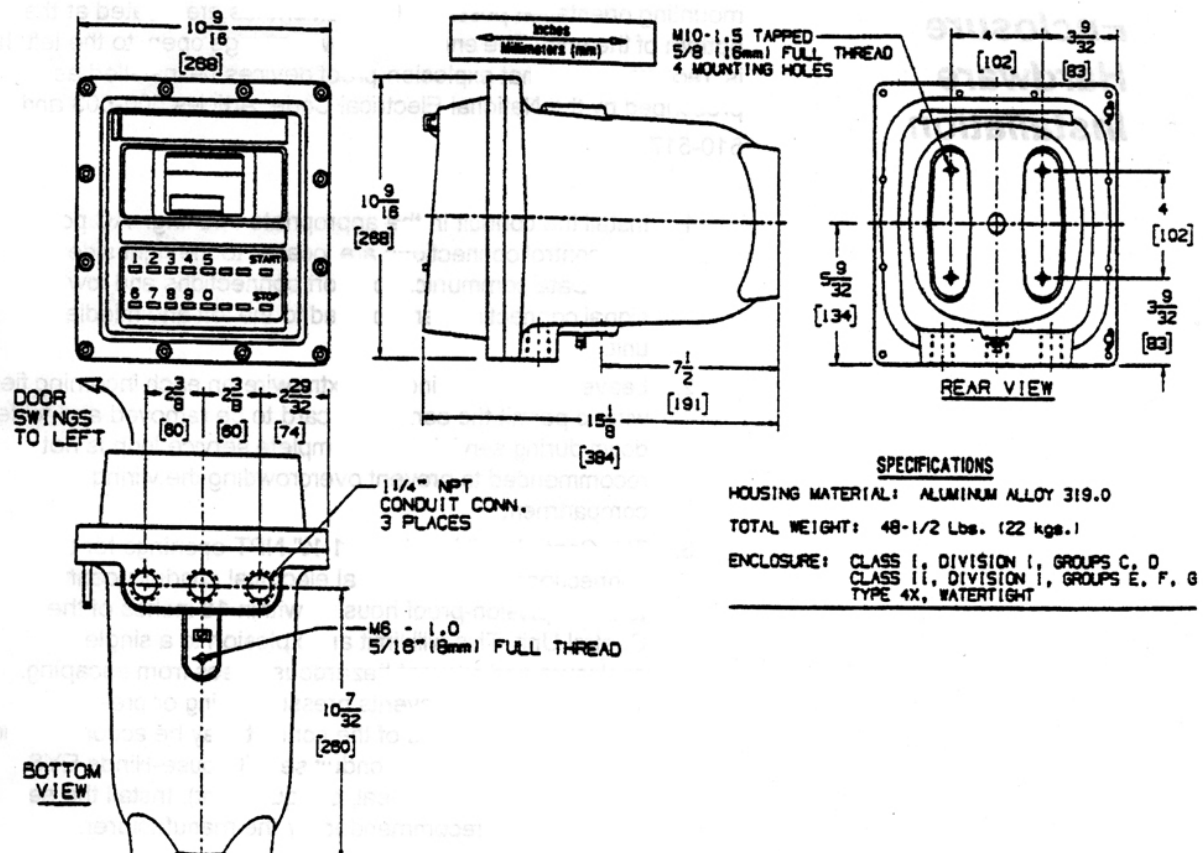

Figure 5. Mounting Dimensions
2. Mount the PetroCount case in an upright position. This is the only possible mounting orientation. Refer to Figure 5.